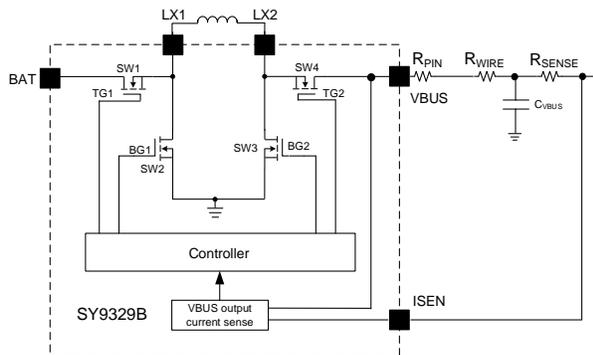

Figure5. Description of VBUS Output Current Limit
The SY9329B provides a function for VBUS output current limit by sensing the voltage drop between VBUS pin and ISEN pin (as shown in figure5). Once the voltage difference ($V_{VBUS} - V_{ISEN}$) exceeds the voltage threshold, which can be configured by register 0x02[7:5], the internal control loop will regulate the output current by decreasing duty cycle until UVP or OTP is triggered. Noticing that the effects of R_{PIN} and R_{WIRE} cannot be ignored, the actual limit current I_{LIMIT} can be calculated as given in Equation (2):